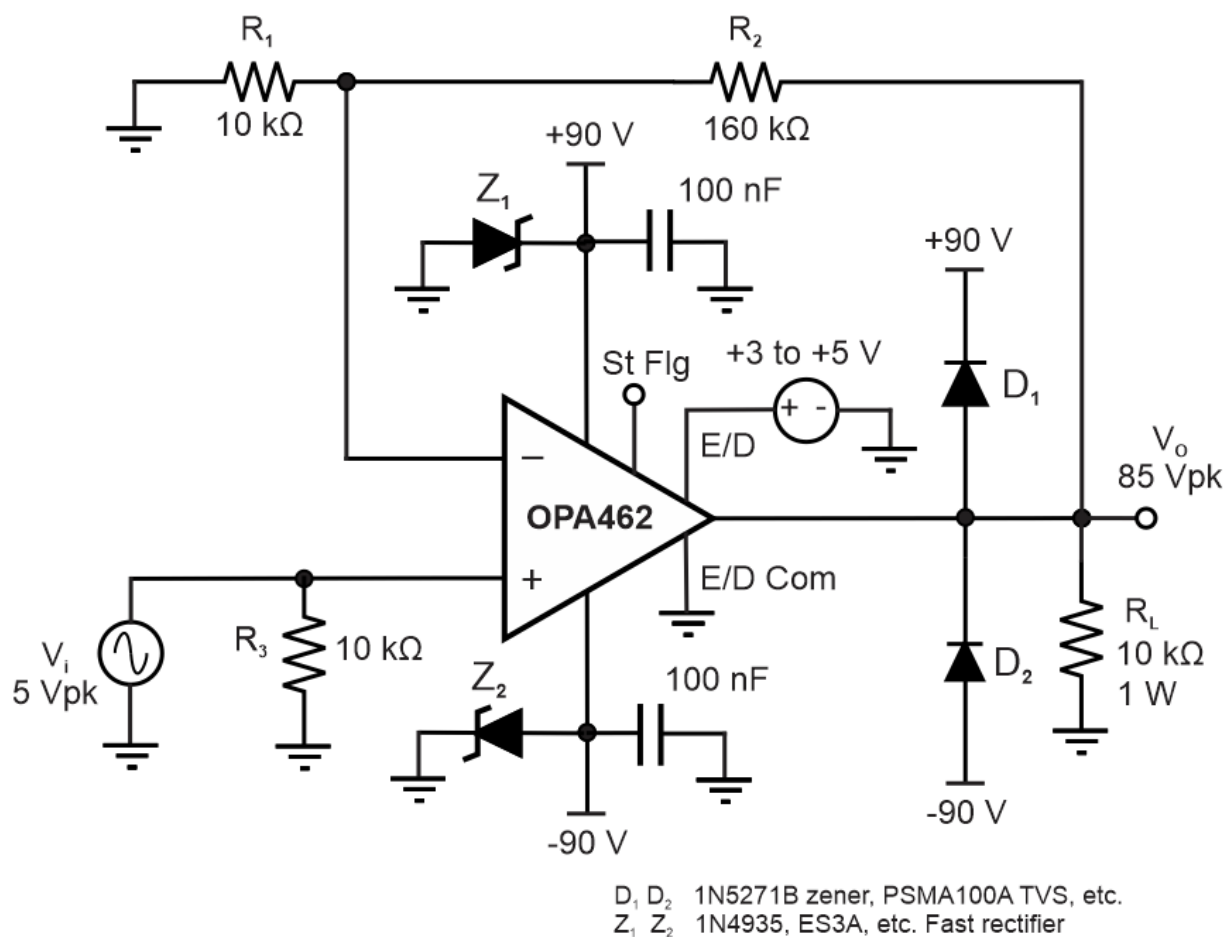

Figure 8. OPA462, High-voltage Non-Inverting amplifier, $A_V = 17$ V/V
The OPA462 high-voltage op amp can be used in commonly applied op amp circuits, but with the added capability of allowing the use much higher supply voltages. A very common application of an op amp is that of a non-inverting amplifier, one having a gain of 1 V/V or higher. Figure 8 shows the OPA462 in a non-inverting configuration.
Figure 8 shows a non-inverting circuit with a moderately high closed-loop gain (A_V) of 17 V/V (24.6 dB). In this example, a 5- V_{pp} ac signal is amplified to 85- V_{pp} across a 10-kΩ load resistor connected to its output. The peak current for this application is 8.5 mA, which is well within the OPA462 output current capability. Higher output current, typically up to 30 mA, may be attained at the expense of the output swing to the supply rails. A ± 90 - V_{DC} power supply is required for this configuration.
A potentially destructive mechanism is the back EMF transient that can be generated when driving an inductive load. D_1 , D_2 , Z_1 and Z_2 in Figure 8 have been added to the basic OPA462 amplifier circuit to provide protection against back EMF. If the voltage at the OPA462 output attempts to momentarily rise above V_+ , D_1 becomes forward biased and clamps the voltage between the output and V_+ pins. It must be sufficient to protect the OPA462 output transistor. If the event causes the V_+ voltage to rise the power supply bypass capacitor and/or Z_1 , a Zener diode or a transient voltage suppressor (TVS) can provide a path for the transient current to ground. D_2 and Z_2 provide the same protection in the negative supply circuit.
The OPA462 non-inverting amplifier circuit having a closed-loop gain of 17 V/V has a small signal band –3 dB bandwidth of nearly 800-kHz. However, more importantly the large signal bandwidth is likely of greater importance in a high output voltage application. For that mode of operation the slew rate of the op amp and the peak output swing voltage must be considered on order to determine the maximum large signal bandwidth. The slew rate (SR) of the OPA462 is typically 6.5 V/ μ s, or 6.5×10^6 V/s. Using the 85- V_{PK} output voltage available from the circuit in Figure 8, the maximum large signal bandwidth can be calculated from the slew rate formula. Equation 1, Equation 2 and Equation 3 show the calculation process.